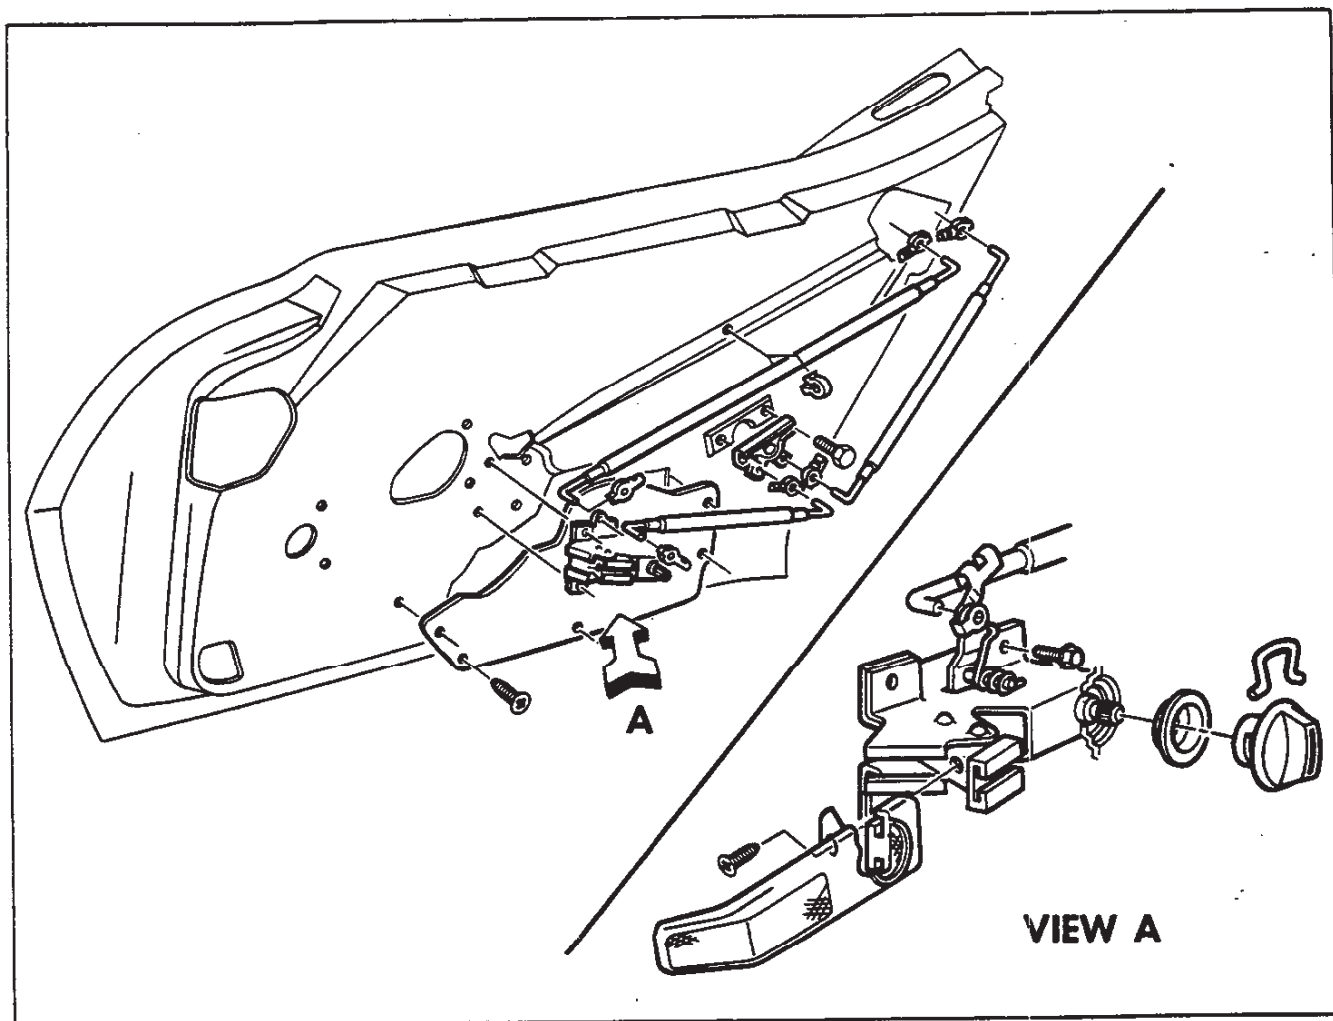

Fig. 21—Door Lock and Remote Control
2. Remove four (4) screws securing trim panel located at inside corners of inner door panels.
4. Remove door lock handle by removing one (1) screw and sliding handle forward (fig. 21).
For parts identification, refer to Figure 21.